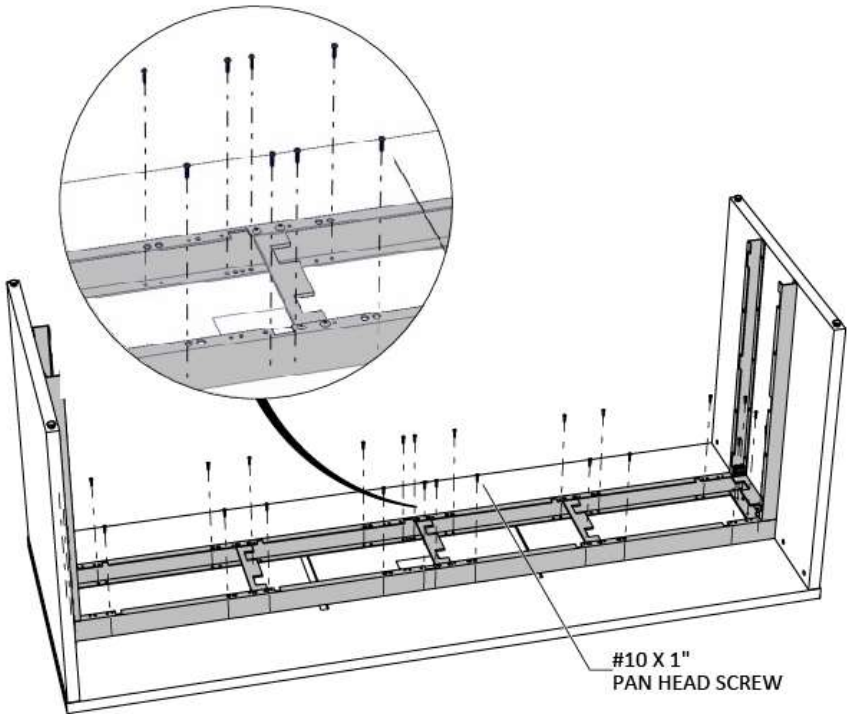

Figure 11
- 28. Securely fasten the bridge to the surface, using #10 X 1" Pan Head Screws, (Figure 11).